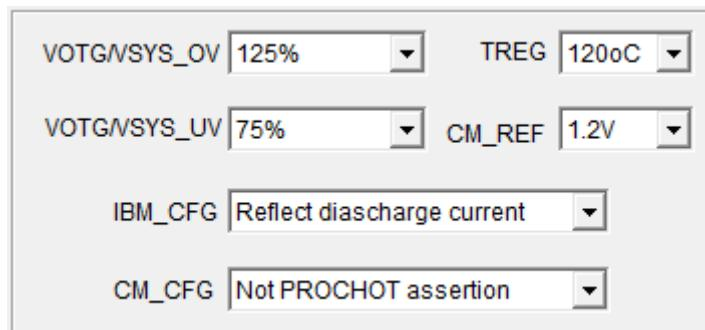

Figure 24: Other Configuration
4. Set the remaining controls (see Figure 24)